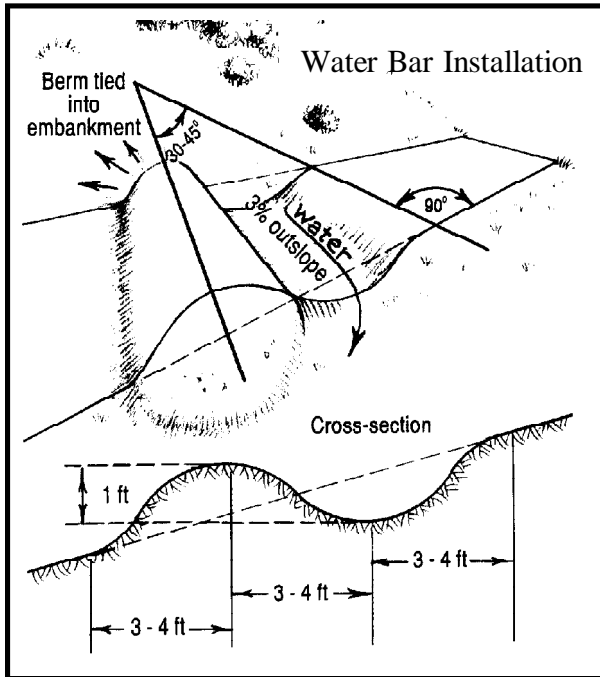

Figure ROAD-8
**U** Control down-road flow of surface water by using a combination of the appropriate road cross-section (see Figure ROAD-6) and appropriate water diversion structures within the roadbed itself, such as broad-based dips (see Figure ROAD-7 and Table ROAD-1) or grade rolls, open-top culverts and water bars (see Figure ROAD-8 and Table ROAD-2).